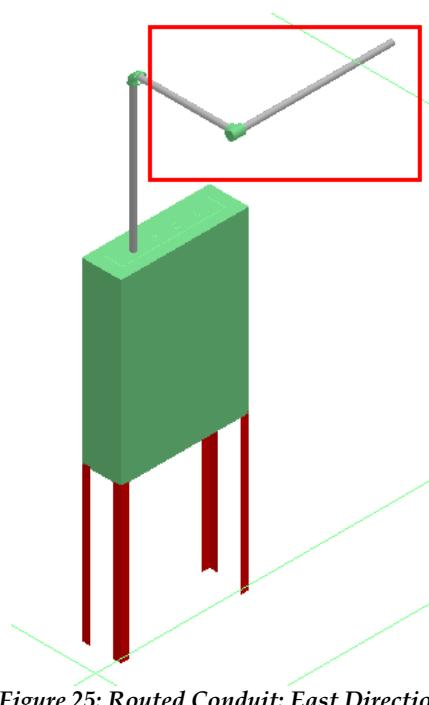

Figure 25: Routed Conduit: East Direction
25. Route the conduit in the East direction, as shown in the Figure 25.